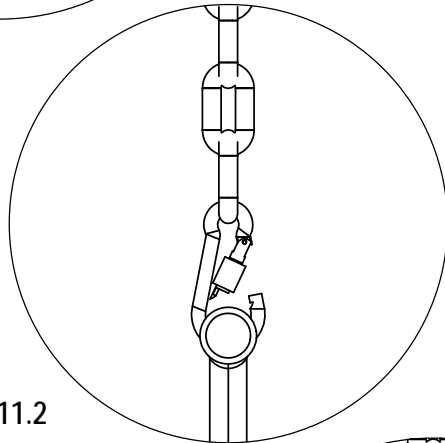

FIG. 11.2
2. ATTACH SPRING CLIP TO TRAPEZE. (FIG. 11.2)